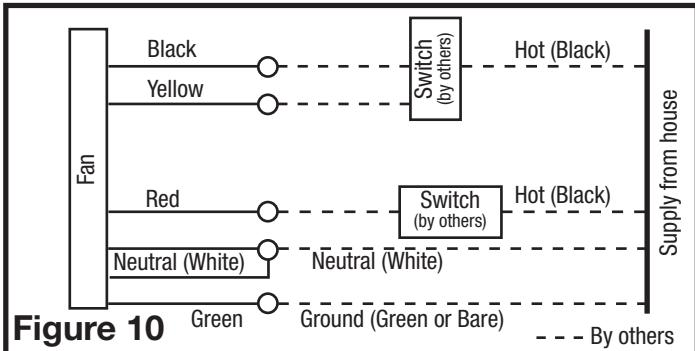

Figure 10
- 3c. From where you have chosen to access the fan's junction box, connect the White wire from the house to the two White wires from the fan. Connect the ground wire (green or bare copper) from the house to the Green wire from the fan (Figure 10). Use approved methods for all connections.